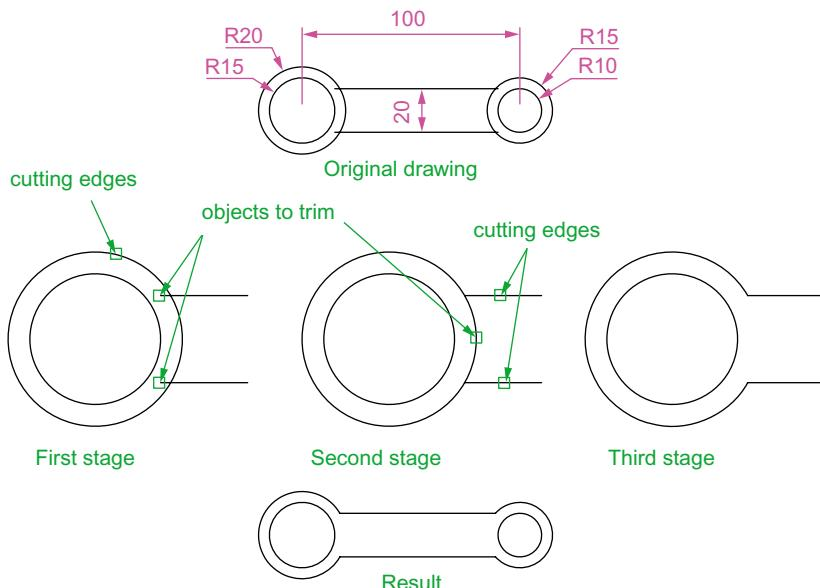

Fig. 5.31 First example – Trim
### First example – Trim (Fig. 5.31)
1. Construct the drawing **Original drawing** in Fig. 5.31.
3. This completes the **First stage** as shown in Fig. 5.31. Repeat the Trim sequence for the **Second stage**.
4. The **Third stage** drawing of Fig. 5.31 shows the result of the trims at the left-hand end of the drawing.
5. Repeat for the right-hand end. The final result is shown in the drawing labelled **Result** in Fig. 5.31.